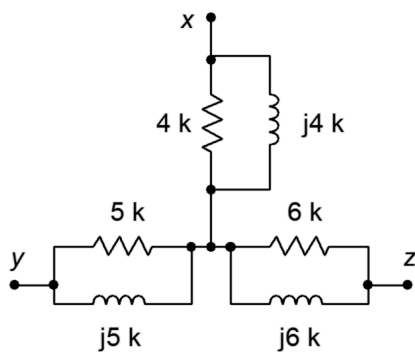

Figure 5.32
58. Determine the equivalent delta (pi) network for the circuit of Figure 5.32.